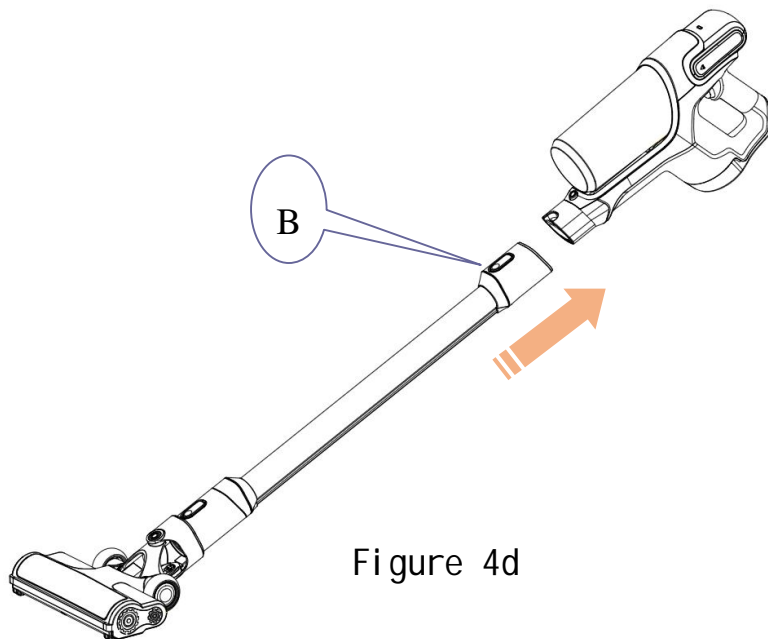

Figure 4d
Press the release key button (B) to detach the main unit from the aluminum tube, see figure 4d. Press the power switch button to switch on the handheld unit. The operation will be the same as operating the whole unit (refer to Point 4.1).